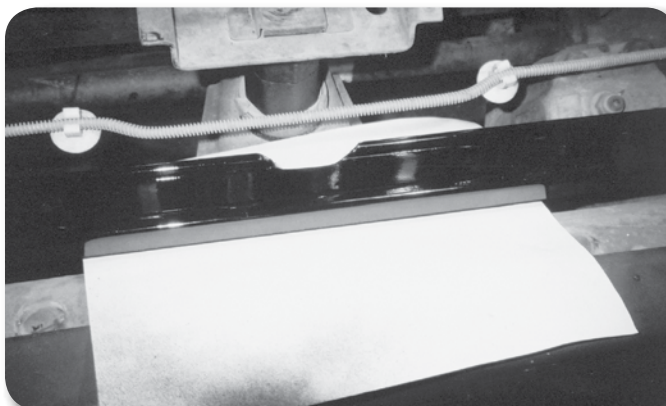

Figure 2
20. Mark the front tie bar support for clearance around the new body mount. Cut the support **Figure 2** and reinstall it on the vehicle. Reattach the brake lines using the stock plastic fasteners.